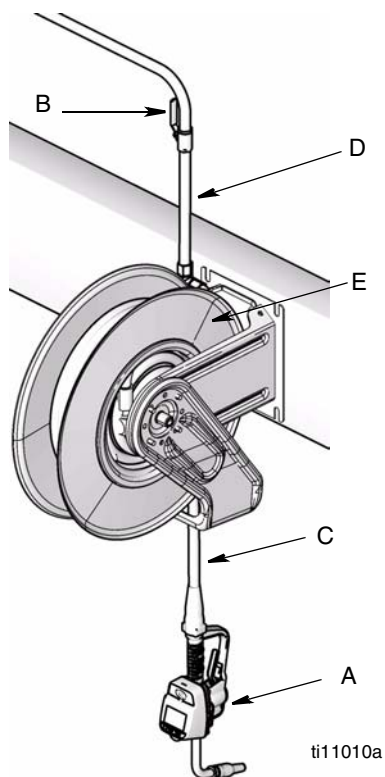

FIG. 13
Typical Installations (FIG. 13)
The typical installation shown in FIG. 13 is only a guide. It is not a complete system design. Contact your Graco distributor for assistance in designing a system to suit your needs.
2. Close the shut-off valve (B, FIG. 13).
1. Close the fluid shut-off valve (B, FIG. 13, page 11) at each dispense position.
4. Slowly open the shut-off valve (B) at the dispense position. Flush out a sufficient amount of oil to ensure that the entire system is clean; then close the valve.